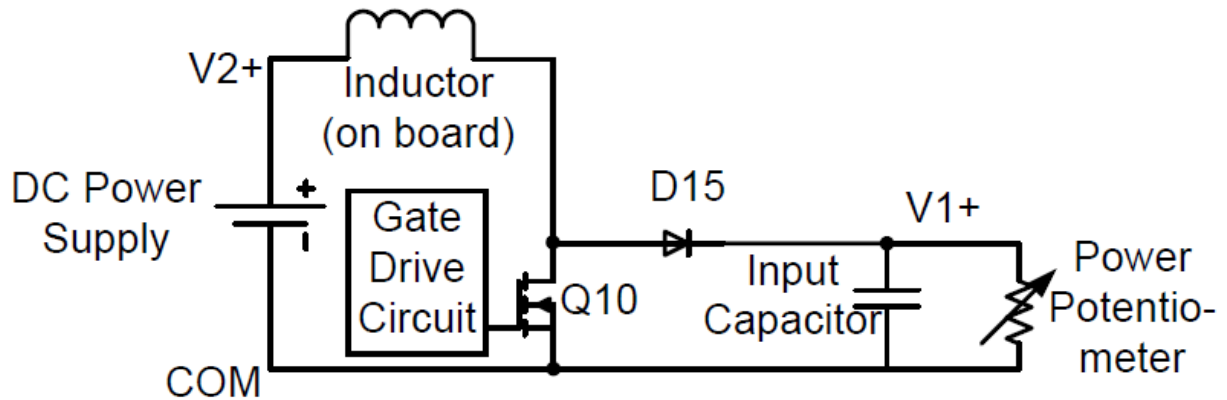

Fig. 1. Boost converter circuit
- 1.5 Build the circuit shown in Fig. 1 by using the lower MOSFET, upper diode, and BB magnetic board.
- 1.6.3. Make sure the switch array for MOSFET selection (lower MOSFET), PWM selection, and other settings are correct to achieve a functional circuit as in Fig. 1.